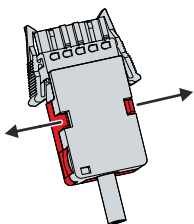

Fig. 22: Disassembly of the strain relief housing
1. Use your fingers to bend the latching lugs on the lower part slightly outwards (see Fig. 22).